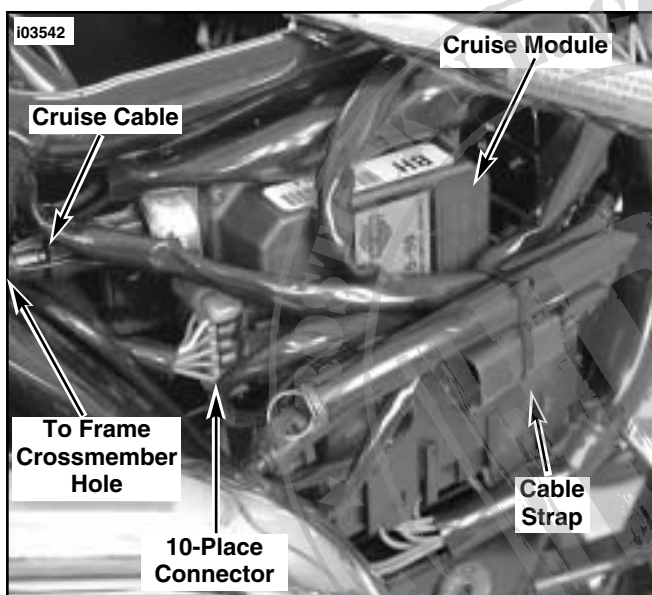

Figure 3. Mount Cruise Control Module
7. See Figure 3. Remove the fuse block cover panel by pulling straight out from mounts and temporarily position the cover away from the mounting area. Align the cruise module studs (and grommets) with mounting holes in battery box and push module firmly into position. Make sure grommets enter mounting holes in battery box.
8. See Service Parts Illustration. Obtain the three flange locknuts (7) and install to cruise control module studs (inside battery box). Tighten nuts 9-11 ft-lbs (12.2-15 Nm). Locate the 10-place connector harness (normally wire tied to frame tube next to battery box) and cut the tie. Route downward and install the 10-place connector into cruise module.